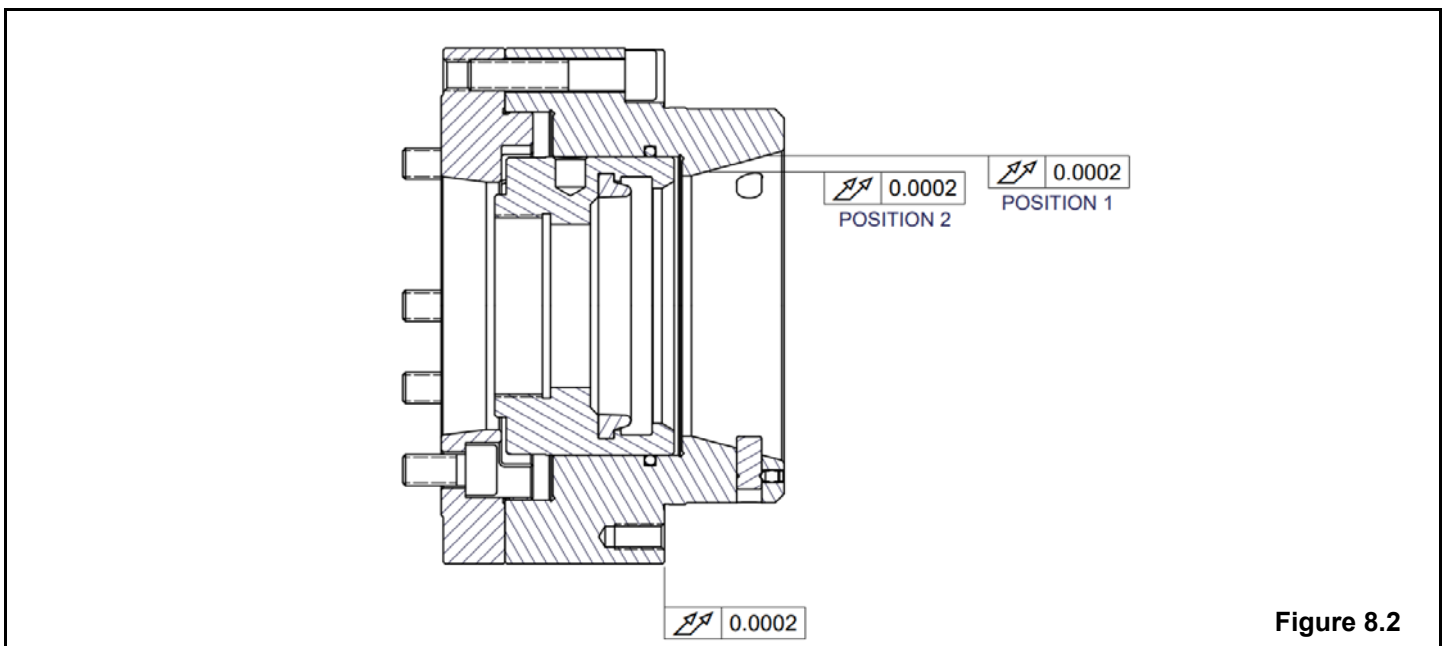

Figure 8.2
2. Make certain that the mounting surfaces of the chuck body and adapter plate are clean and free of nicks or burrs that could prevent the proper seating of the chuck body. Also make sure the (4) radial adjusting screws are not protruding into the locating diameter of the chuck body.
6. Indicate the ID runout of the collet taper as shown in position #1 in Figure 8.2. Make adjustments to the (4) radial adjusting screws so that the runout of the collet taper is within .0002" (0.005mm).
7. Before tightening the mounting bolts, measure the runout of the collet taper on position #2 in Figure 8.2. If the chuck body is properly seated on the adapter plate, the runout measured on position #2 should be the same as position #1. If the runout measured in position #2 exceeds the runout of position #1 by more than .0001" (0.0025mm), remove the chuck body from the adapter plate and repeat this mounting procedure.
8. After the runout of the collet taper has been adjusted, tighten the mounting bolts to the torque specifications given in Section 4. Also make sure to tighten all (4) radial adjusting screws.